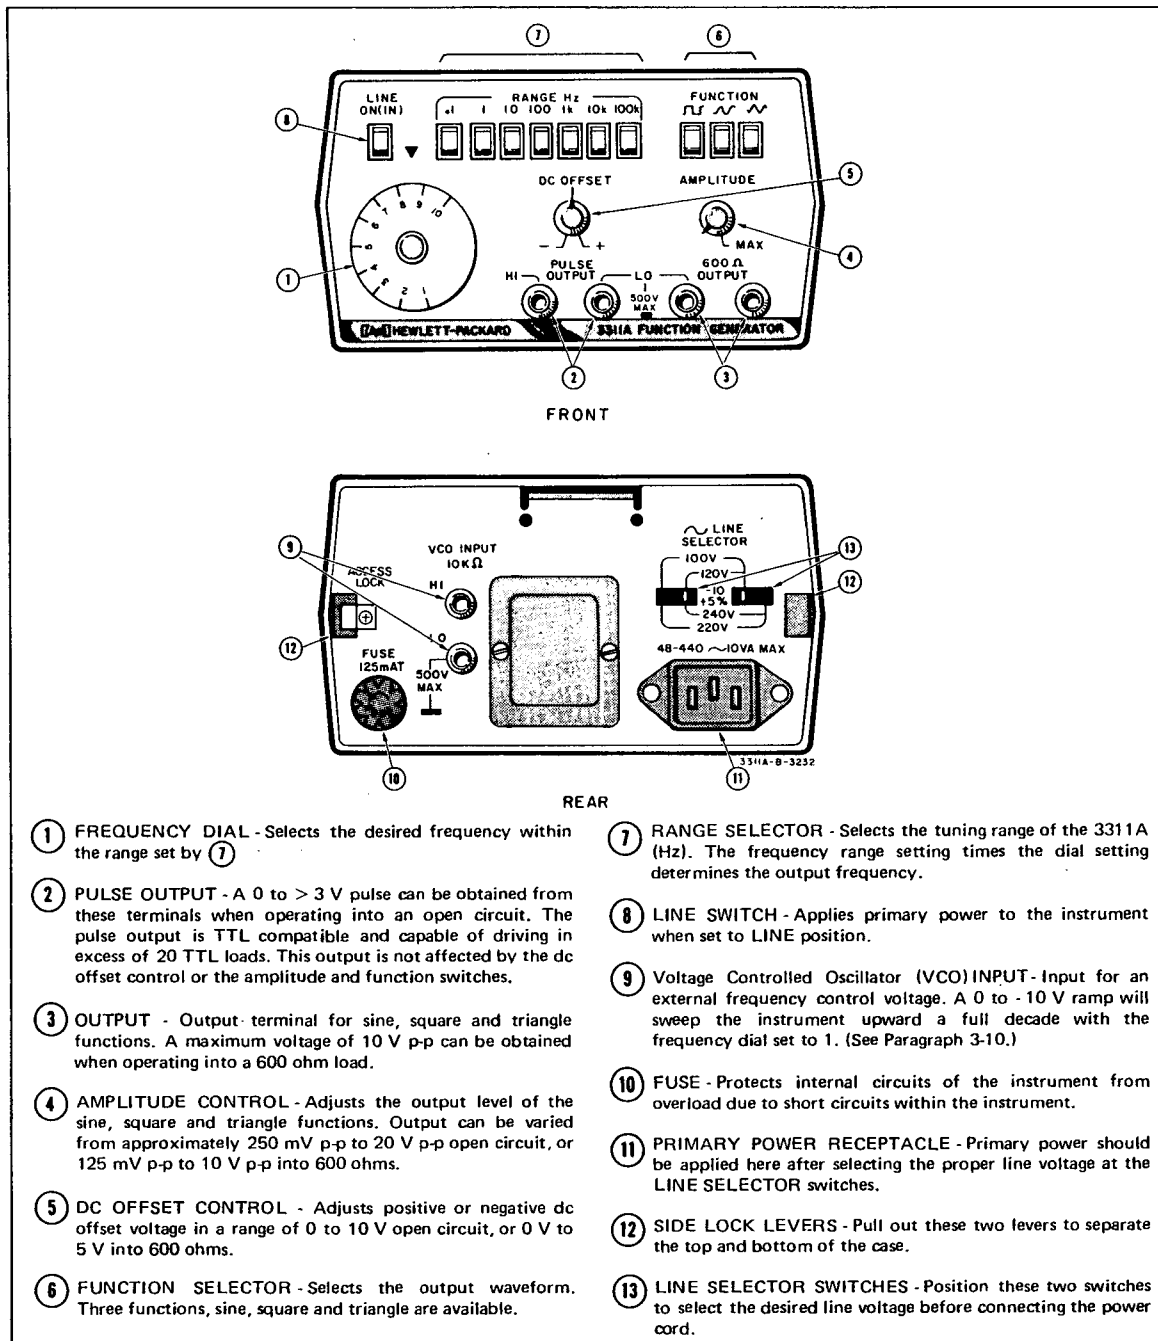

Figure 3-1. 3311A Front and Rear Panel Features.
3-4. Panel features for the Model 3311A are described in Figure 3-1. Each operating control, indicator and connector is identified by an associated number and described by a paragraph with the corresponding number.
3-8. Select the function desired (⑥ of Figure 3-1). Set the RANGE switch ⑦ and the frequency dial ① to the desired settings. The output frequency of the 3311A equals the RANGE setting times the dial setting. Turn the AMPLITUDE control ④ to minimum and connect the load to the OUTPUT terminals ③. Connect an oscilloscope to the OUTPUT terminals ③, and adjust the AMPLITUDE control for the desired output level. If DC OFFSET is desired set the offset ⑤ to the desired level using a dc coupled oscilloscope. DC offset can be obtained on sine, square or triangle functions. The pulse cannot be dc offset.